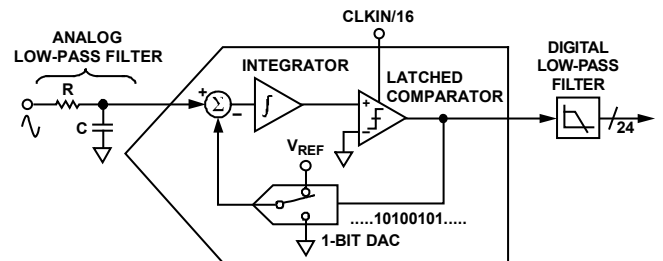
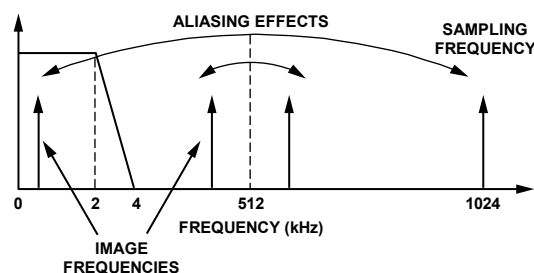

Figure 31. First-Order Σ - Δ ADC
Figure 33. Aliasing Effects
For simplicity, the block diagram in Figure 31 shows a first-order Σ - Δ ADC. The converter is composed of the Σ - Δ modulator and the digital low-pass filter.
Figure 31 shows an analog low-pass filter (RC) on the input to the ADC. This filter is placed outside the ADE7854A/ADE7858A/ADE7868A/ADE7878A; its role is to prevent aliasing. Aliasing is an artifact of all sampled systems, as shown in Figure 33. Aliasing means that frequency components in the input signal to the ADC, which are higher than half the sampling rate of the ADC, appear in the sampled signal at a frequency below half the sampling rate. Frequency components above half the sampling frequency (also known as the Nyquist frequency, that is, 512 kHz) are imaged or folded back down below 512 kHz. This happens with all ADCs regardless of the architecture. In the example shown, only frequencies near the sampling frequency, that is, 1.024 MHz, move into